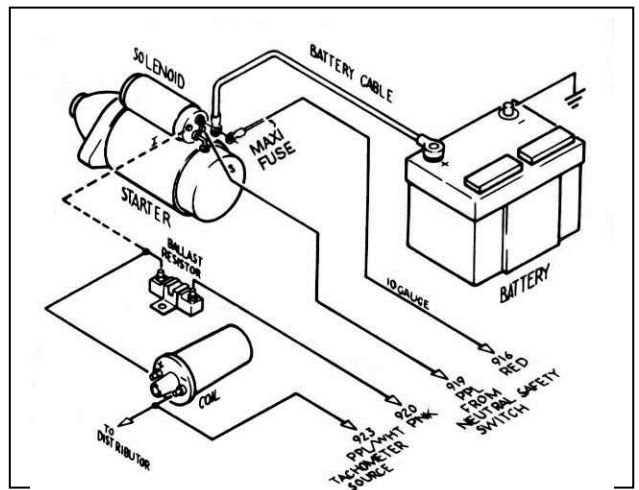

Figure 7-3A GM Ignition (Start-Run) System
7.3.6 A 14-gauge wire connected from the Starter Solenoid Ignition (I) terminal to the ignition coil side of the Ballast Resistor is optional. This wire (the dashed line in **Figure 7-3A**) serves as a ballast resistor BYPASS during engine starting. However, if the starter solenoid shorts out, which is not unusual, the engine will stop running and will not restart as long as this wire is connected. You may therefore choose to omit it. If you are not using a Ballast Resistor, leave the Starter Solenoid Ignition (I) terminal unconnected and do not install the bypass wire.